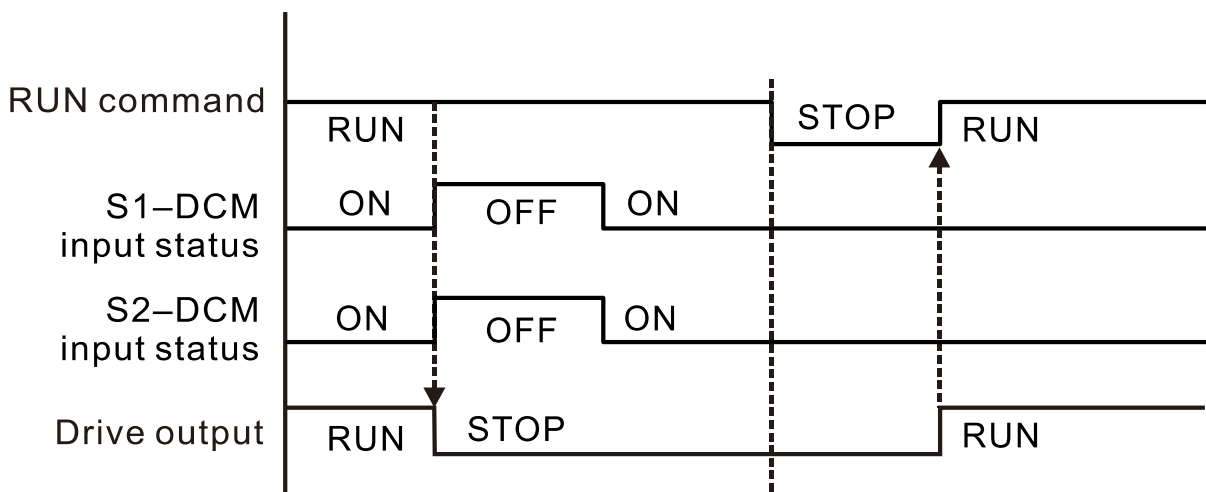

Fig.17-7
As shown in Fig. 17-7, when both of S1-DCM and S2-DCM are OFF during operation (STO function is required), the drive stops outputting. When the S1 / S2 status is restored (ON), the STO alarm clears automatically. The drive outputs when the RUN command is executed again.